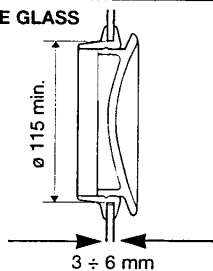

Figure 1
Step 1 Make a hole in the window-pane (see figure 1).